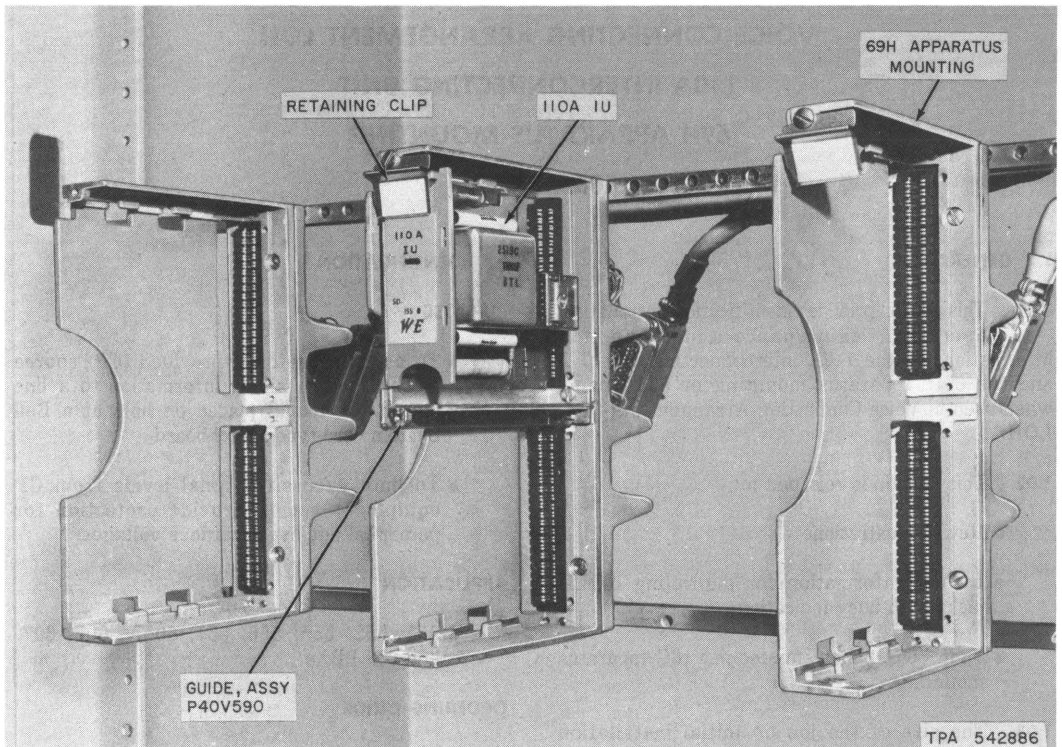

Fig. 1—69H Apparatus Mounting Mounted on Relay Rack
- To adapt a customer-provided (CP) source of recorded music or information to a line (station or trunk) placed on hold at a Bell System cord-type switchboard
- Unit, Interconnecting, 110A (Fig. 1 as required).
**For 69H Apparatus Mounting (Fig. 1)**